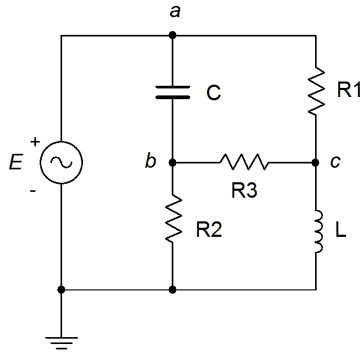

Figure 6.10
19. Use mesh analysis to find the current through resistor R3 in Figure 6.10. $E = 60\angle 0^\circ$, $R_1 = 1\text{ k}\Omega$, $R_2 = 2\text{ k}\Omega$, $R_3 = 3\text{ k}\Omega$, $X_C = -j10\text{ k}\Omega$, $X_L = j20\text{ k}\Omega$.
20. Given the circuit in Figure 6.10, use mesh analysis to determine v_{bc} . $E = 120\angle 90^\circ$, $R_1 = 100\text{ k}\Omega$, $R_2 = 20\text{ k}\Omega$, $R_3 = 10\text{ k}\Omega$, $X_C = -j5\text{ k}\Omega$, $X_L = j20\text{ k}\Omega$.
53. Given the circuit in Figure 6.10, use nodal analysis to determine v_{bc} . $E = 120\angle 0^\circ$, $R1 = 1\text{ k}\Omega$,